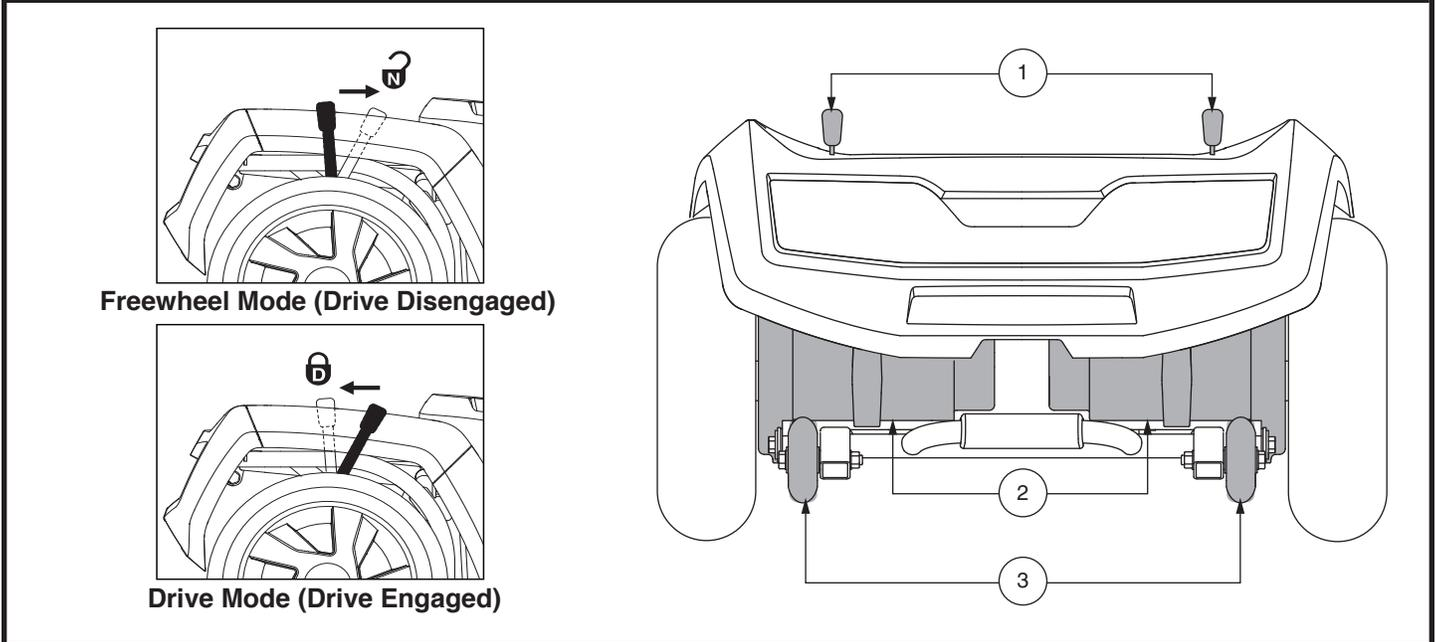
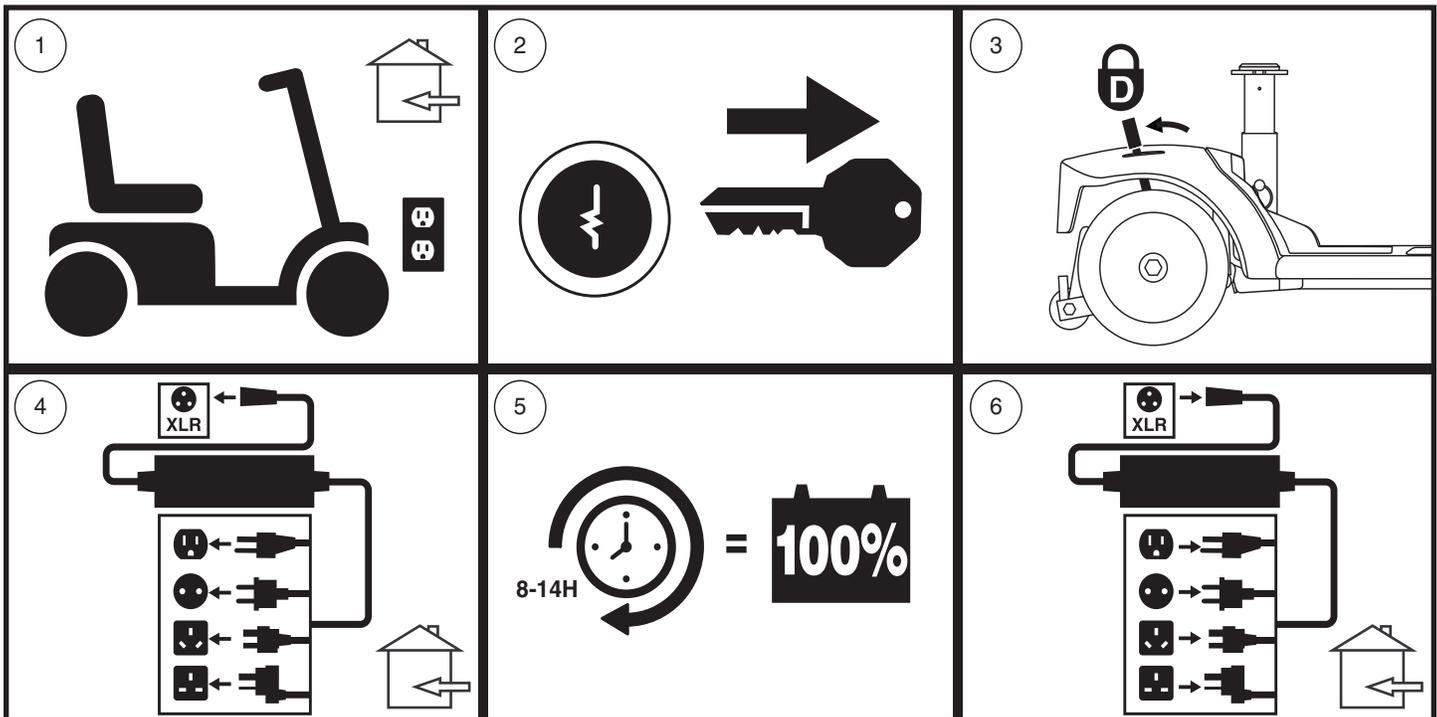

Figure 7. Rear Components - 710ZT
Figure 12. Battery Charging Procedures Diagram
For your convenience, your scooter has a manual freewheel lever on each motor. Manual freewheel levers enable you to disable the drive system in order to maneuver the scooter manually. See figure 7.
1. Locate the levers on the rear section of the scooter. See figure 7.
Follow the 6 easy steps in figure 12 to charge your batteries safely:
**NOTE:** For model 710ZT, the manual freewheel levers operate in the opposite direction (see figure 7). Therefore, for step 3 of figure 12, the levers must be pushed forward to engage drive mode.